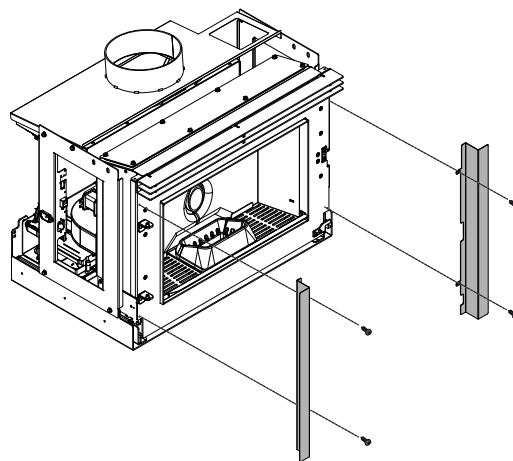

Fig. 41
- Compensating side frames (**Fig. 41**)